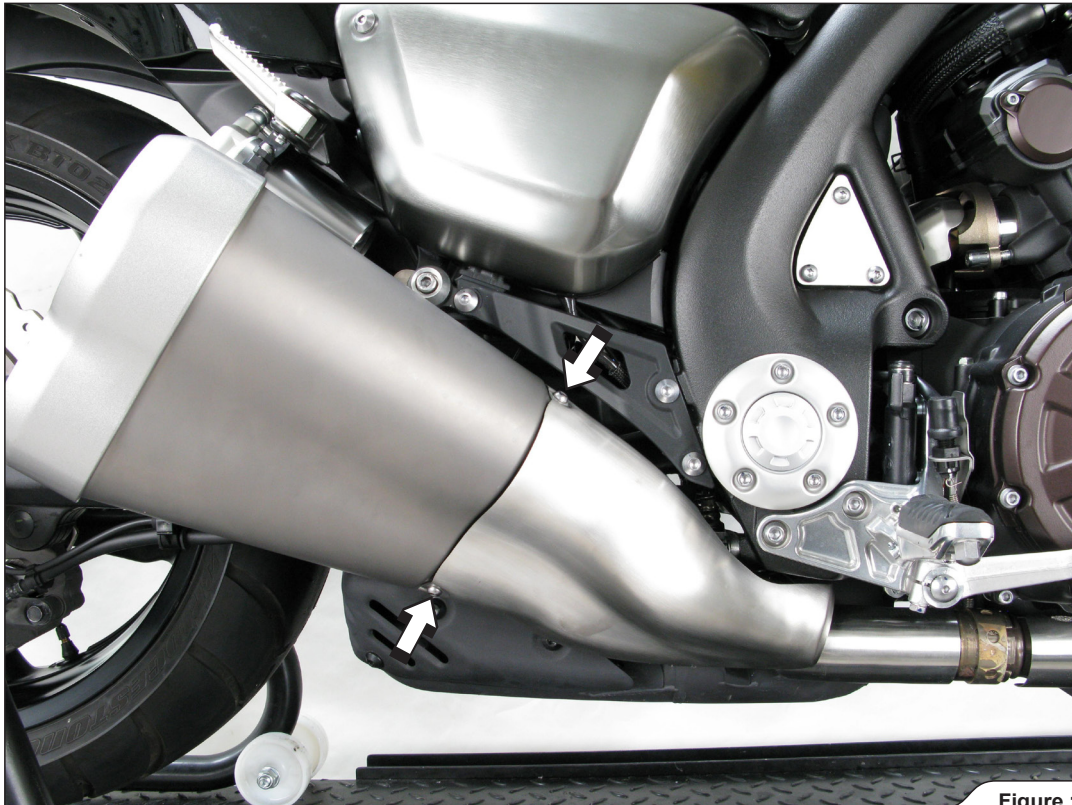

Figure 1
2. Unscrew the marked bolts and remove the stock heat shield. Perform the process on both sides of the motorcycle (Figure 1).